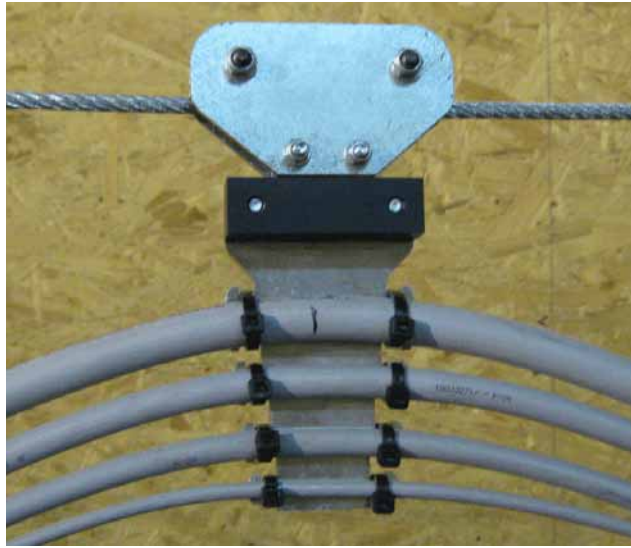

FIG. 2-6
See Figure 2-6.
**See Figure 2-6.**